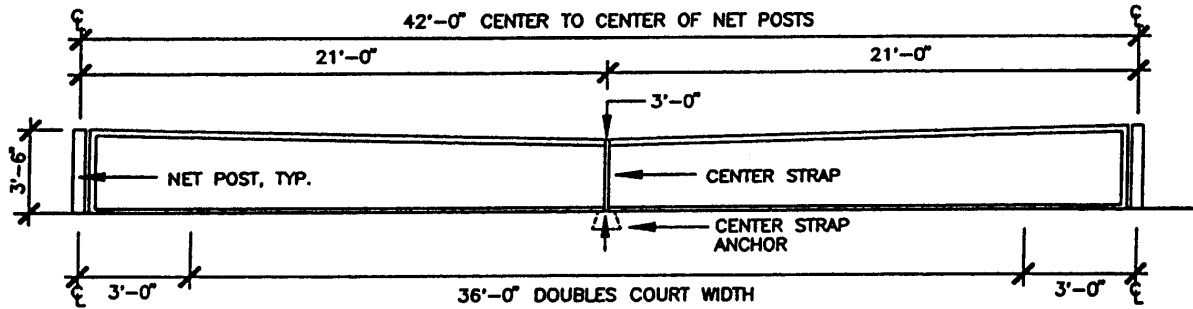

FIG. 3
- Place footings so that the center line of the posts will be 3' outside the court on each side. The center lines of posts should be positioned 42' apart for Doubles court (FIG. 3) and 33' apart for Singles court.